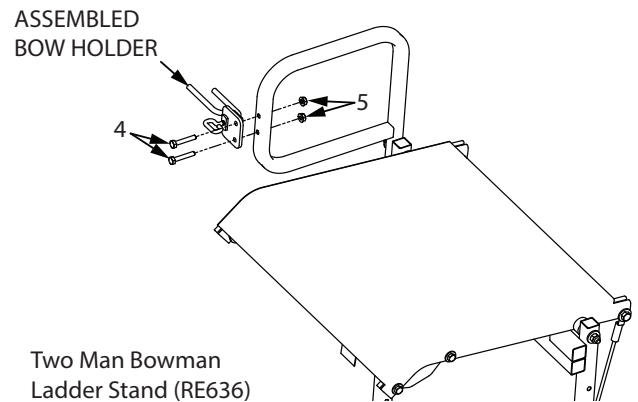

FIGURE 3
2. Attach the assembled bow holder to the armrest with bolts (4), and locknuts (5). Installation is the same for both the right and left side. **SEE FIGURE 3.**